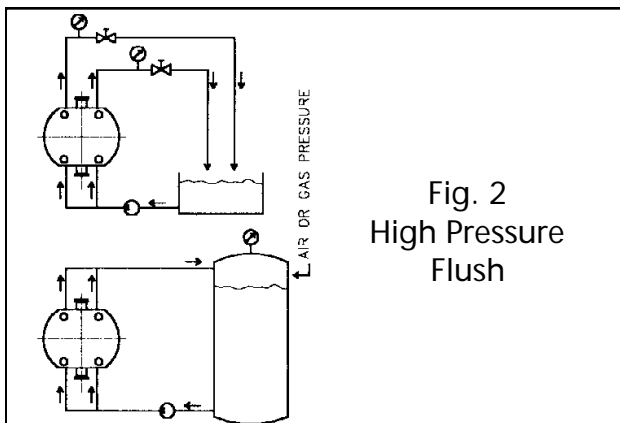

Fig. 2
a) A high pressure liquid flush (fig. 2) when:
- Flush liquid must be at a pressure of 1 bar (15psi) above the discharge pressure of the 55 Series pump and should flow at 35 to 55 liters/hour (10 to 15 US gal/hour) per seal. See Figure 2.